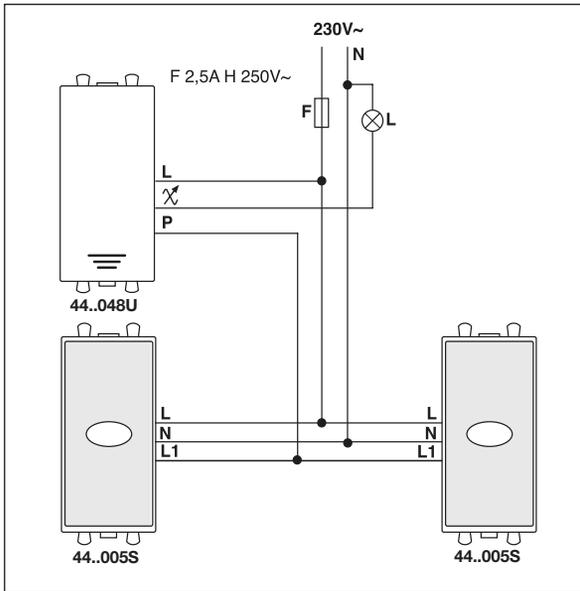

Figure 4
- 44..005S with traditional dimmer 44..048U (figure 4);